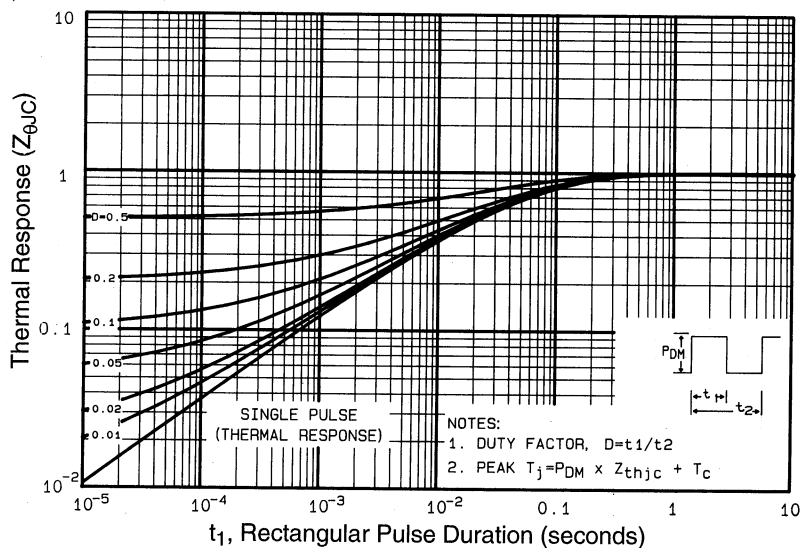

Fig 11. Maximum Effective Transient Thermal Impedance, Junction-to-Case
① Repetitive rating; pulse width limited by max. junction temperature. (See fig. 11)
② $V_{DD} = 25V$, starting $T_J = 25^\circ\text{C}$, $L = 34\mu H$